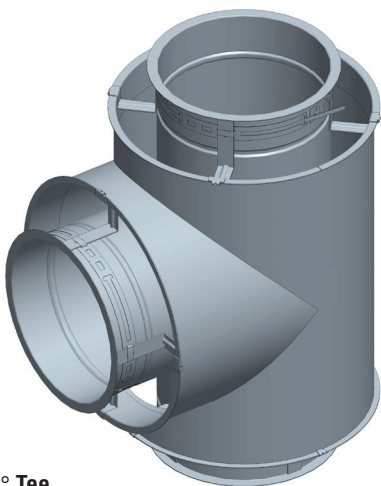

Figure 30 - 90° Tee
12. Install the insulation over the inner wall (CIX1, CIX2, CIX4, CIX3Z). See **Figure 30**.
The 90° Tee is generally used to connect horizontal connectors into a vertical section as well as a drain or inspection fittings. See **Figure 30** for a 90° Tee.